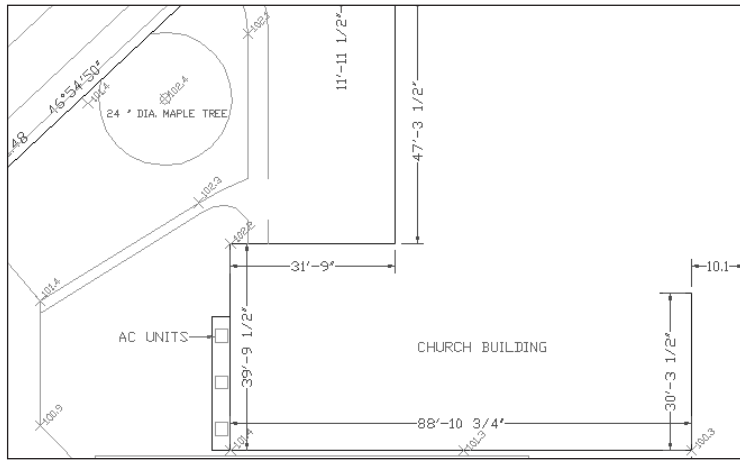

Figure 10-28: The edited site plan
7. Save your drawing. It should look like Figure 10-28.